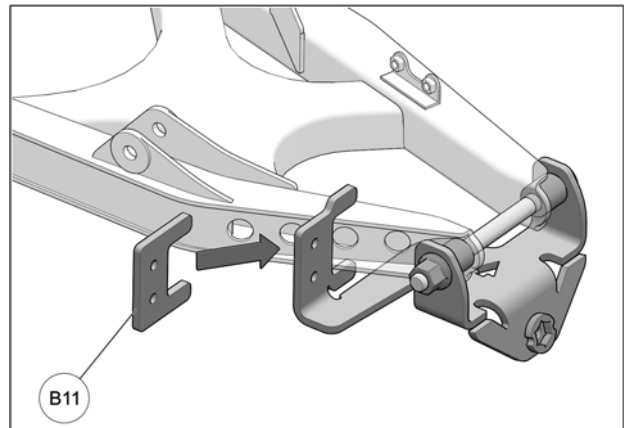

Fig. 9
9. Install spacer plate (**B11**) against C-shaped back end of bracket. Align holes. See Fig. 9